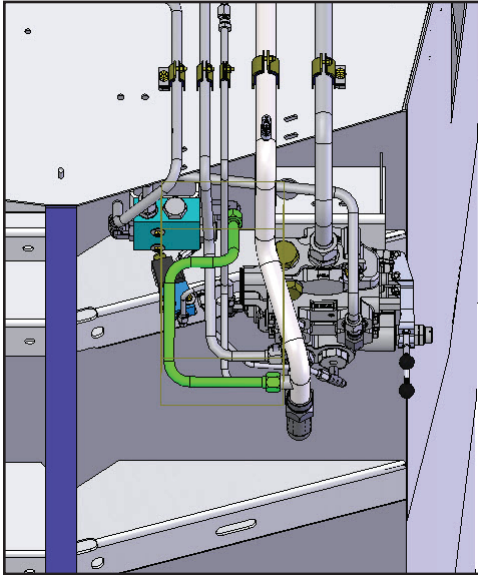

Figure 3
In an effort to help reduce repeated failures on tube (PN 1137938 or PN 1597692), replace the tube (PN 1137935) that connects PN 1137938 or PN 1597692 to the ejector force limiter with a flexible hose (PN 1559615). The location of the ejector force limited tube (PN 1137935) is shown in Figure 3.
3. Disconnect the ejector force limiter tube (PN 1137935) (green tube shown in Figure 3).